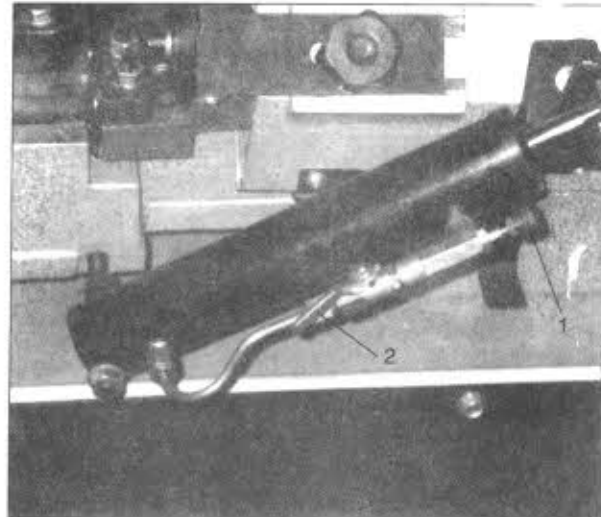

Fig.4
The hydraulic feed selector is used to control the blade feed rate and to lock the arm in the vertical position. To increase the feed rate, turn knob (1, Fig.4) counter-clockwise. To decrease the feed rate, turn knob (1) clockwise. To turn off the flow of hydraulic fluid, turn lever as in figure 4. To turn the hydraulic cylinder on, raise lever (2) to position.